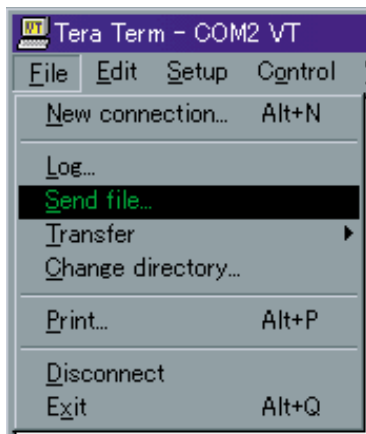

Fig. 6
(5) [Option] Binary is checked. (Fig.6)